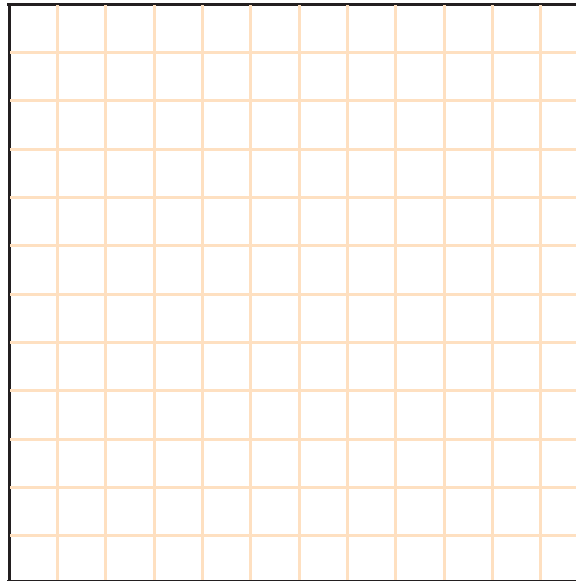

Figure 1-15. With and without voltage boost characteristics.
- 27. For all voltage setpoint values shown in Table 1-11, determine the corresponding voltage output (U) displayed by the AC Drive. Enter your results in the With voltage boost column in Table 1-11.
- 29. Plot the curves With and Without voltage boost characteristics in Figure 1-15. Place the Frequency in the X-axis, and the Output voltage (U) in the Y-axis.